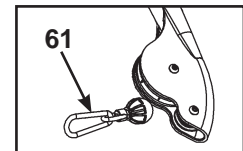

Figure 1
**1. Installing snap links (refer to step 1A, 1B and Figure 1).**
- C. Attach each snap link (#61) to cable on each cable arm. See Figure 1.